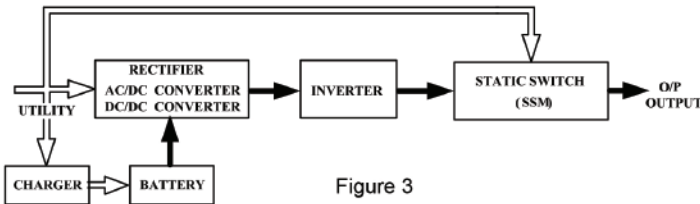

Figure 3
3. During a utility outage the UPS will work as illustrated in Figure 3. When the batteries are low the buzzer will beep continuously until the batteries are completely cut off. The low-battery protection of the UPS will cut off the battery supply at a preset threshold to avoid over-draining the batteries.